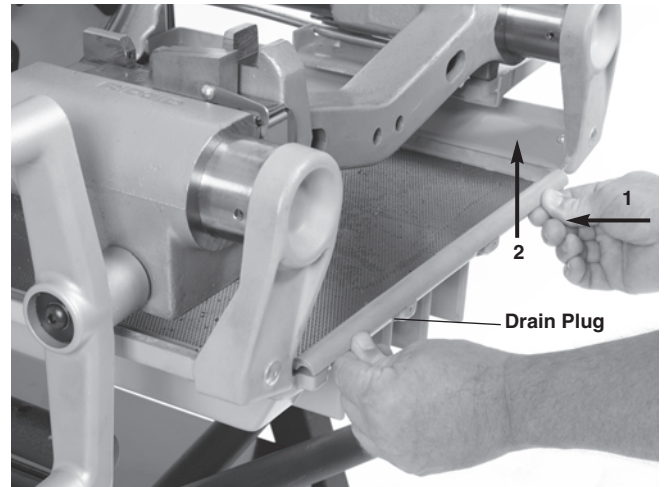

Figure 29 – Removing the Draw Tray Assembly
To remove the draw tray assembly, push toward the front chuck (1) and lift (2) (see Figure 29).